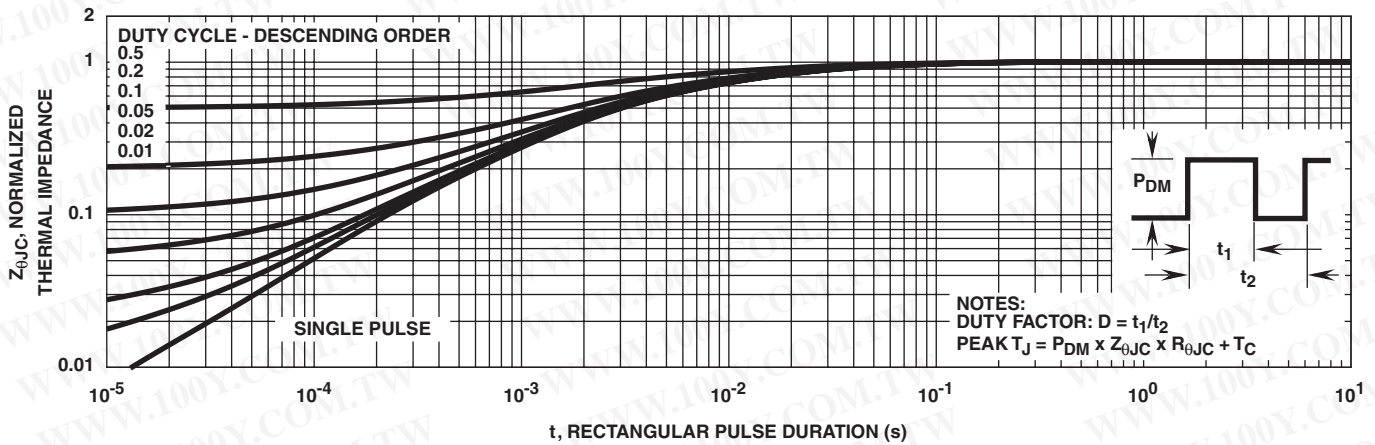

FIGURE 3. NORMALIZED TRANSIENT THERMAL IMPEDANCE
- Repetitive Rating: Pulse Width limited by max junction temperature. See Transient Thermal Impedance Curve (Figure 3) and Peak Current Capability Curve (Figure 5).